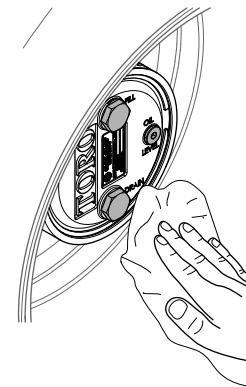

Figure 142
3. Wipe clean the planetary and brake housings (Figure 142).